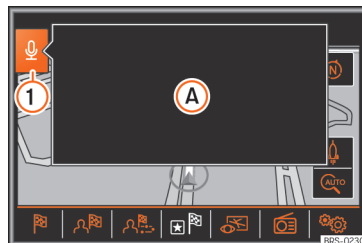

Fig. 182 Voice control: indication of the help menu elements that can be pronounced.
- Speak the commands when the audio and audio signals have finished playing, and the symbol  » **Fig. 182** ① is displayed on the screen.
A help menu is displayed with the most important orders in the active mode at the time [e.g. Navigation] » » Fig. 182 (A). Other elements that can be spoken are shown in red on the corresponding screen » » Fig. 182. The help menu indication can be activated and deactivated in the **Voice control settings** menu » » page 185.